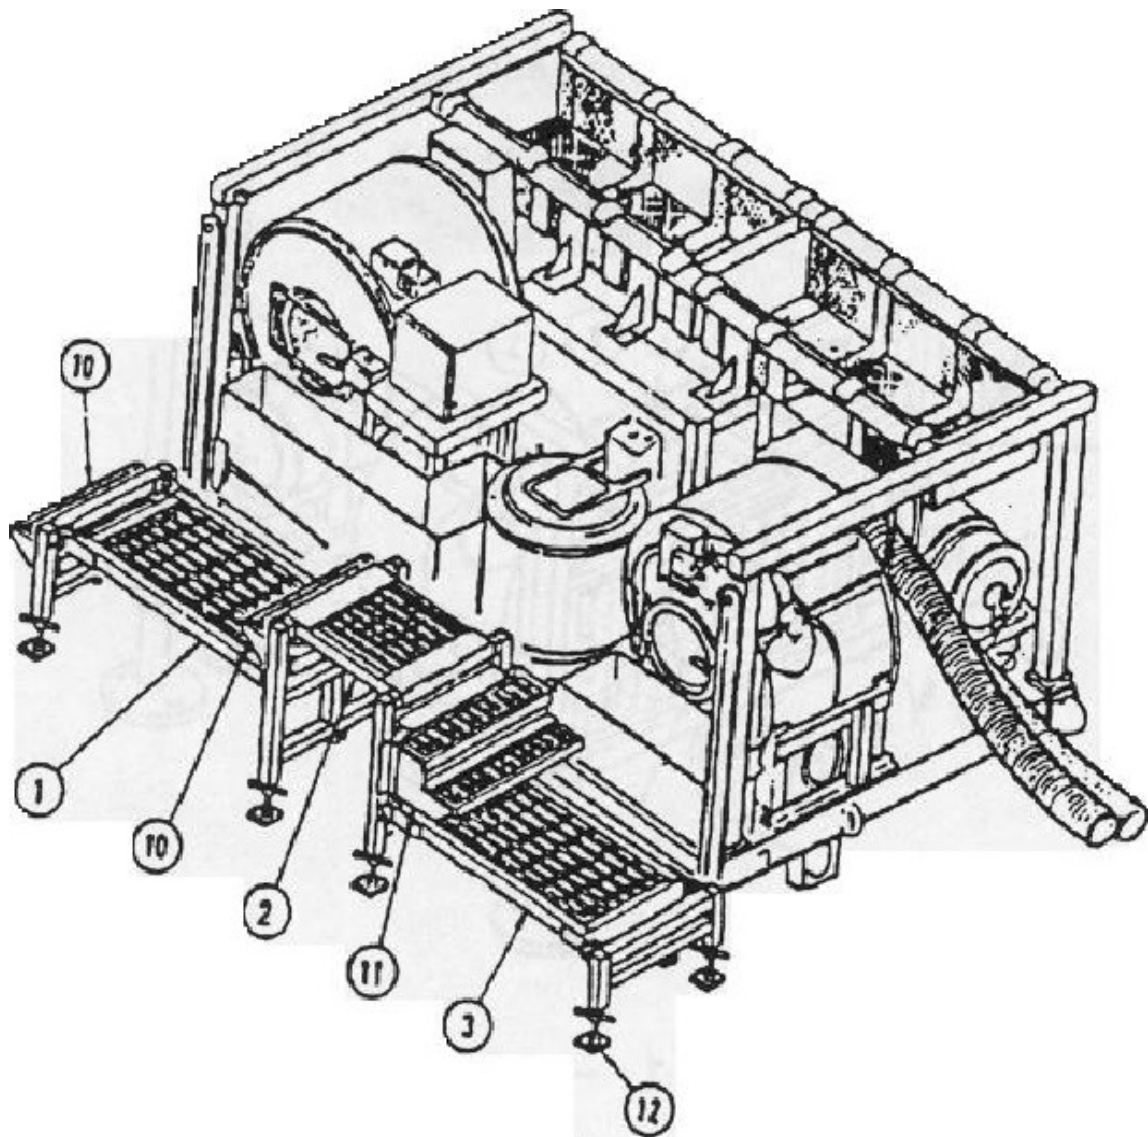

Figure 3-14
- c. Slide washer platform (1) toward front of trailer and remove washer platform from trailer.
- d. Remove clamp (4) from short platform (2) and dryer platform (3).
- f. Repeat procedures in steps (1) and (3) and remove dryer platform.
- h. Place washer platform assembly (1) and dryer platform assembly (3) next to the trailer. Install short platform assembly (2). Remove two-step (11) from pre-extraction bin and install on dryer platform assembly (3). See Figure 3-14